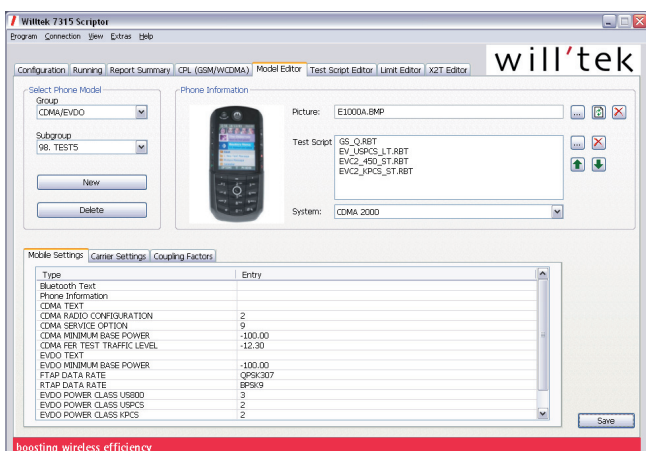

Figure 3: Mobile Editor with Group and Subgroup selection fields
7. Click the Save button (see Fig. 3).